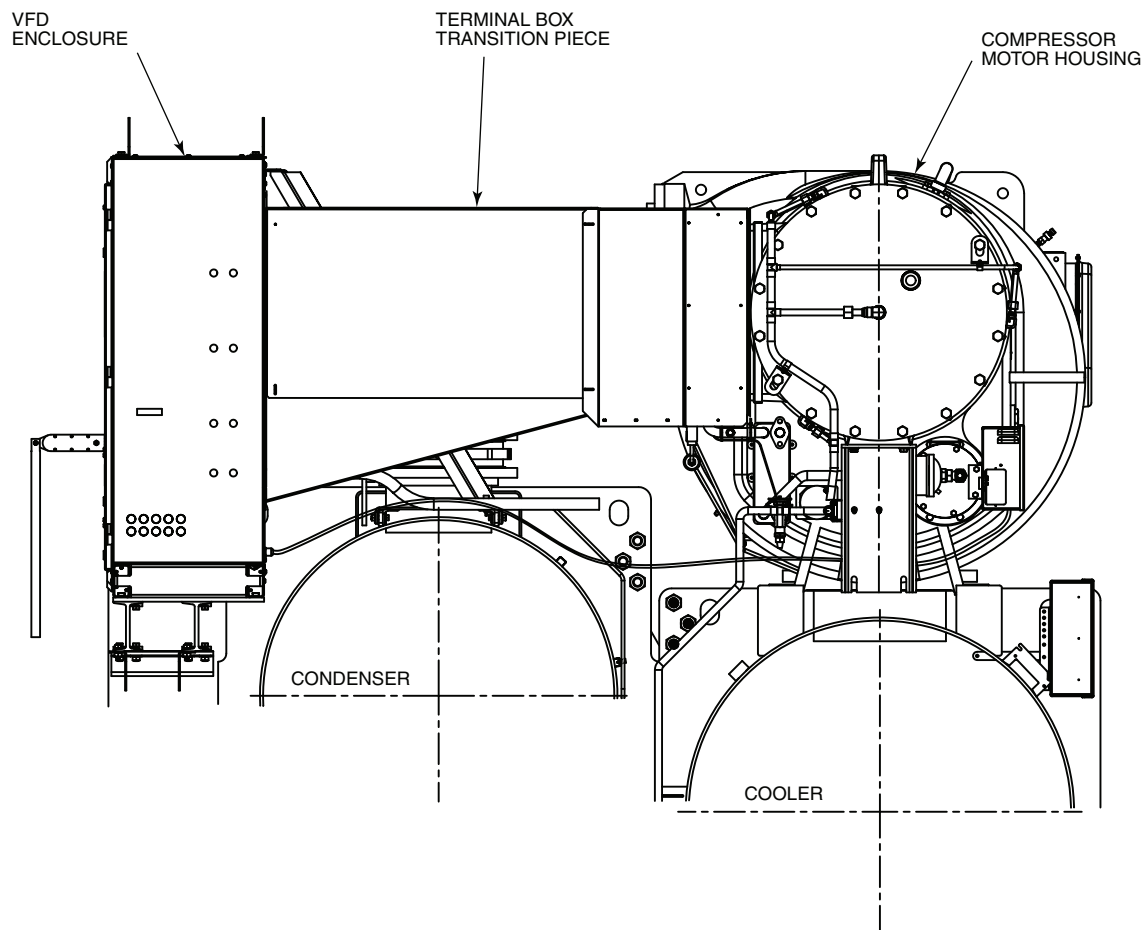

Fig. 15 — 1169A VFD Motor Terminal Box Transition Piece
3. Remove the terminal box transition piece. See Fig. 15.
7. Complete assembly of the motor terminal box transition piece after all power and ground leads are installed. The motor terminal box transition piece must be adjusted to completely cover the opening on the back of the VFD enclosure. See Fig. 15.